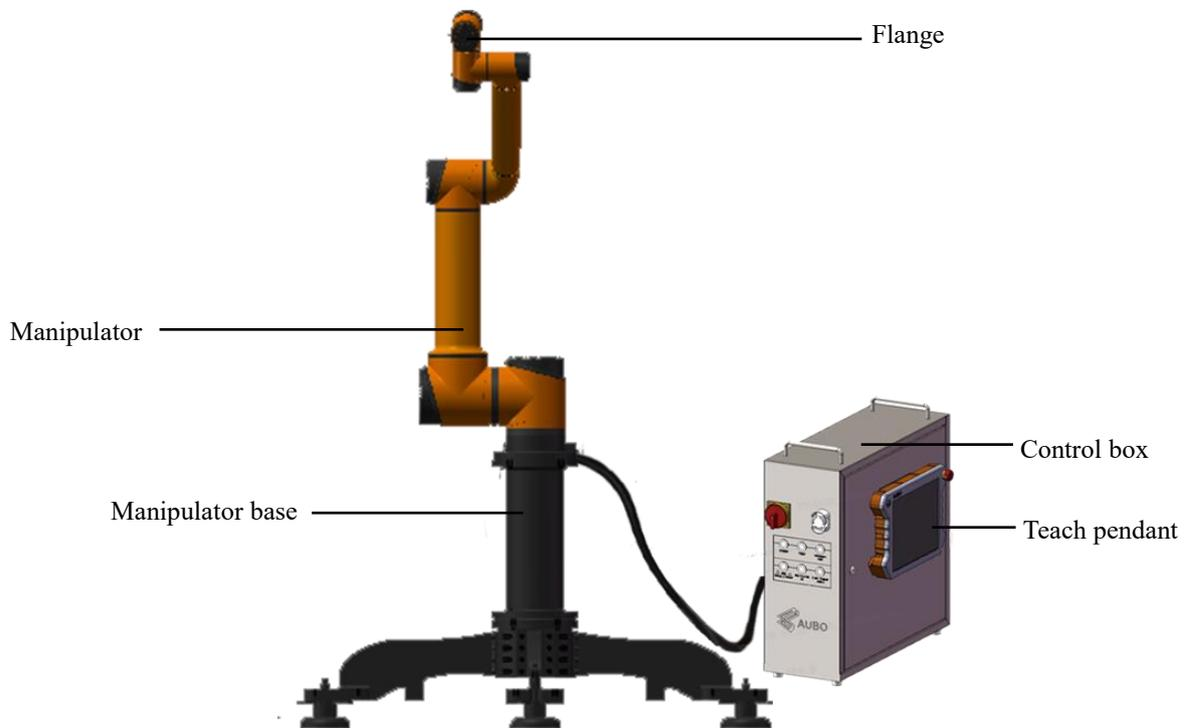
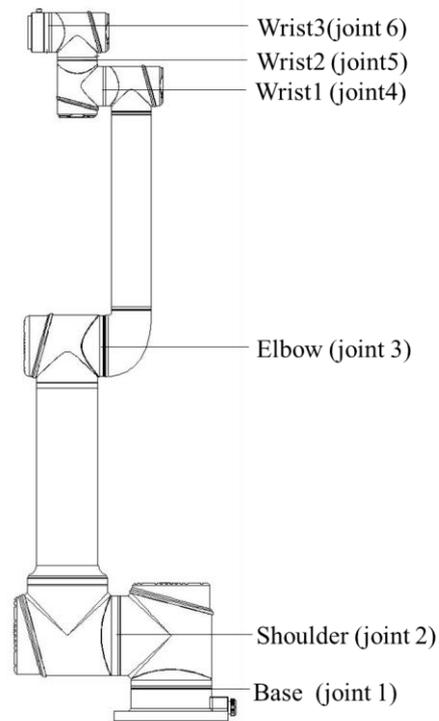

Figure 5-1 AUBO-i7 robot
Figure 5-2 -1 Manipulator Joints
As shown in figure 5.1, The AUBO-i7 robot system consist of a manipulator, a control box(which can choose a variety of models), a manipulator base and a teach pendant. The manipulator imitates human which has six joints and each joint represents a degree of freedom. As shown in figure5.2, manipulator's joint includes a robot base (A), a shoulder (B), an elbow (C), a wrist1(D) ,a wrist2(E) and a wrist3(F). The manipulator base is used for the robot body and the base connection. End-effector is used to connect manipulator and tool. Aluminium pipe is used to connect shoulder and elbow or elbow and wrist. Through the AUBOPE user interface or hand-guiding, users can control the rotation of every joint and move end-effector to any poses.